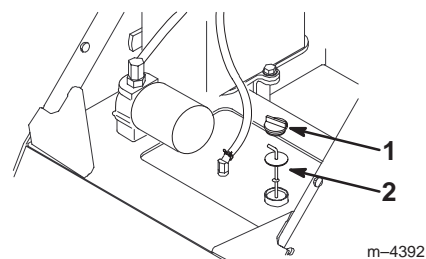

Figure 7
5. Clean the area around the filler neck of the hydraulic tank (Fig. 7).
6. Remove the cap from the filler neck and check the fluid level on the dipstick (Fig. 7).